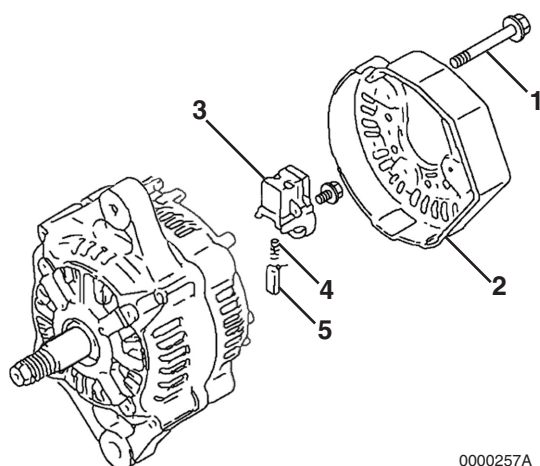

Figure 4-7-6
2. Remove the three bolts (**Figure 4-7-6, (1)**) retaining the rear cover (**Figure 4-7-6, (2)**) to the rear frame assembly.
3. Remove the brush holder (**Figure 4-7-6, (3)**). Remove the brush springs (**Figure 4-7-6, (4)**) and brushes (**Figure 4-7-6, (5)**).